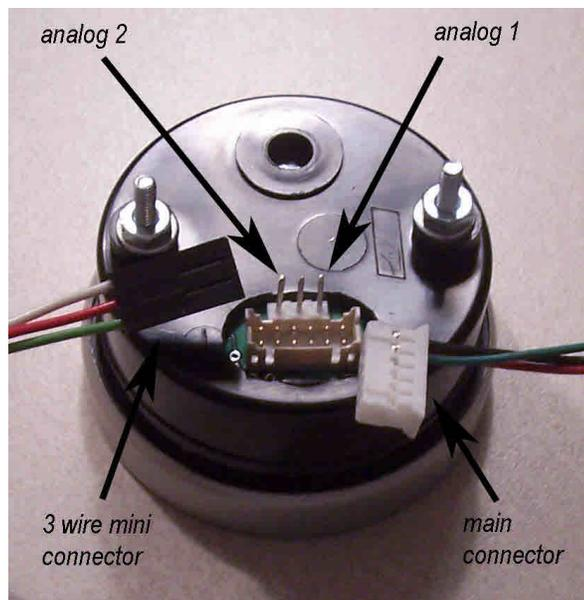

Figure 1
2. **Run included 5', or optional 9' main cable, and three wire mini cable, from the OBD2 connector (do not plug in yet) to the location of the *Interceptor(s)*.** The *Interceptor* will fit in any 2 1/16" or 52mm gauge pod, or can be mounted in a custom fashion anywhere within 5 (9) feet of the OBD2 connector. The OBD2 connector is located under the dash on either side of the steering column.
3. **Plug both cables into the back of the *Interceptor*.** See figure 1. Press the *Interceptor(s)* into the gauge pod or mounting hardware.
- 5. Connect the 0-5v analog inputs (optional).** You will see 3 pins above the main connector on the back of the gauge as shown in *figure 1*. The 2 outer pins connect to the analog inputs. The center pin is for switched 12v power and is not required for virtually any CAN bus vehicle. The right side pin, when looking at the rear of the gauge, goes to analog input 1. The left pin is for analog input 2. See *figure 1*. Included in the gauge packaging is a 3 wire cable that connects here. Once attached to the gauge, you'll see that the white wire is for analog 1, the green for analog 2. These inputs can be used to read the outputs from pressure senders, A/F ratio analog outputs, 2 or 3 bar MAP sensors, or any voltage up to 5v that you want to monitor and/or record. You can scale these signals with a menu function described below. ***These inputs are rated for 0-5 volts, with an over-voltage protection circuit built in. However, running more than 6v into these inputs for an extended period of time could effect the operation of the entire gauge, and possible damage it.***